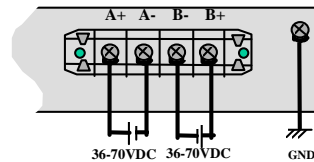

Figure C5.0: -48VDC Dual-Source, wiring connections to the External Terminal Block on a Magnum 48VDC with Dual-Source option
The -48VDC terminal block on the Magnum 4K-Series Switch, as shown in Fig C5.0 is located on the right rear of the unit and is equipped with five (5) screw-down lead posts. The primary terminals are identified as positive (A+), negative (A-), and the secondary power terminals as negative (B-), positive(B+), and the chassis “earth” or ground (GND), #6 nut.